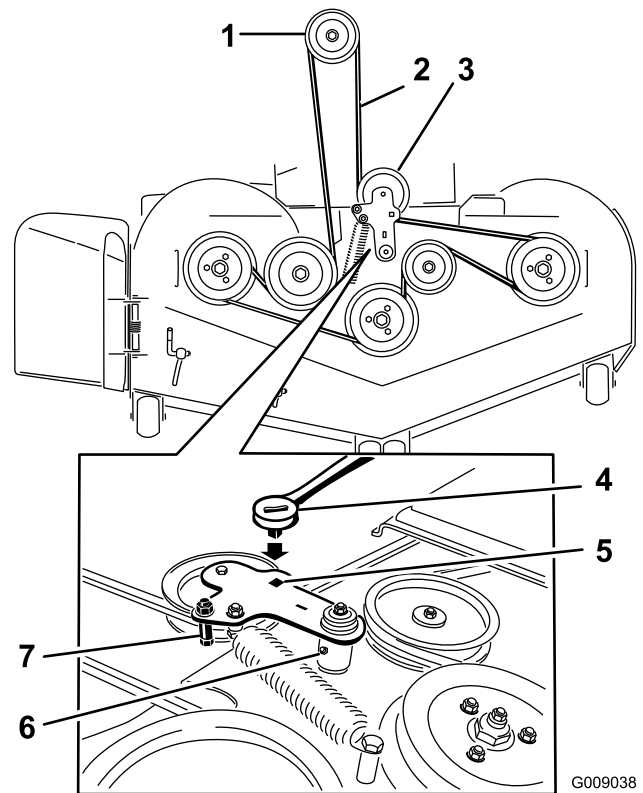

Figure 78
10. Install the belt guide on the idler arm (Figure 78).
11. Using the ratchet in the square hole, install the idler spring (Figure 78).
5. Use a ratchet in the square hole in the idler arm to remove tension on the idler spring (Figure 78).
7. Remove the belt guide on the spring-loaded idler arm (Figure 78).
9. Install the new belt around the mower pulleys and the clutch pulley under the engine (Figure 78).